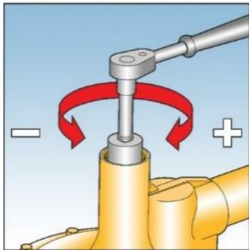

Fig. 11
3. Fully unscrew and remove the spring holder, See Fig. 11.
3. Fully unscrew and remove top spring holder. See Fig. 11.
5. Screw spring holder back in place, ensuring that castellated spigot is uppermost in chimney. See Fig. 11.
10. Screw top spring holder back in place, ensuring that castellated spigot is uppermost in chimney. See Fig. 11. (If UPSS only ensure that spacer tube is firmly clamped)